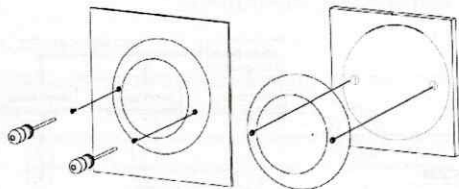

Figure 4 Figure 5
- The light must be installed on a flat surface of the pool. Place the mounting plate on the concrete wall and tighten it with 4 screws. The conduit must be put next to the mounting plate. (See Figure 4)